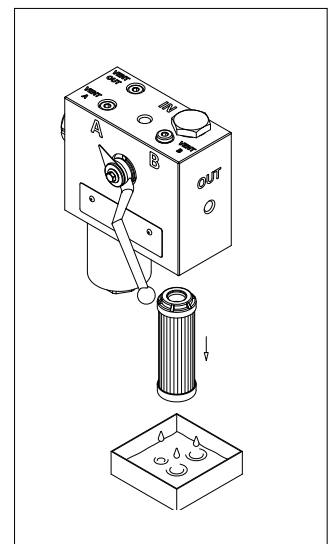

fig. 24
- (Fig. 24) Pull the filter element out